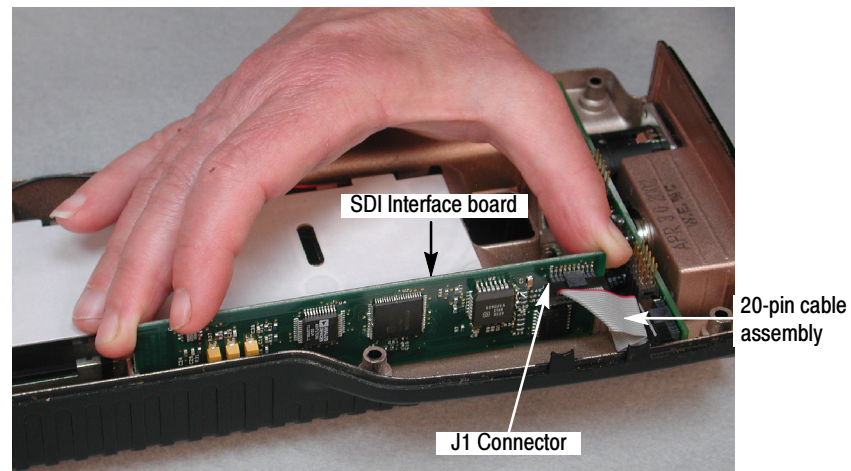

Figure 5: Disconnect 20-pin cable assembly
2. Gently pull the 20-pin cable away from the J1 connector on the SDI Interface board (see Figure 5).